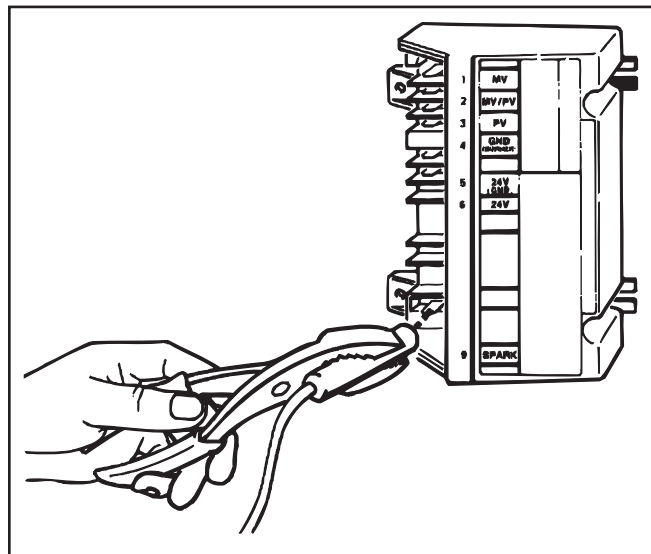

Figure 41. High voltage ignition test.
- If no sparking is heard, pull the ignition lead from the ignition control and hold the bare terminal 1/8 to 3/16 inch (3.2 to 4.8 mm) from the ignition stud with a pair of insulated pliers (see Figure 41).